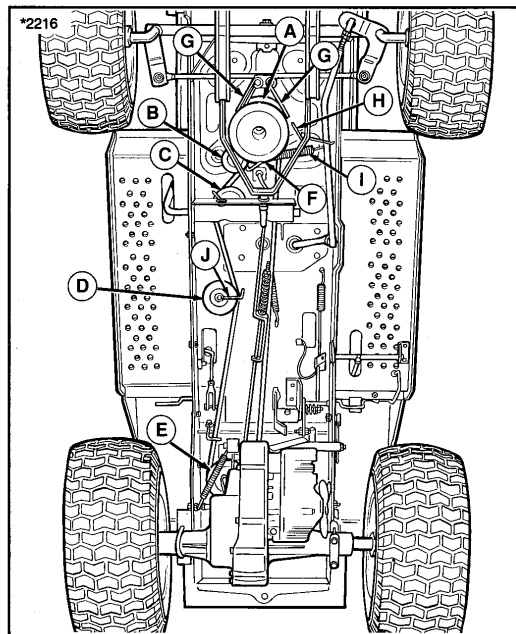
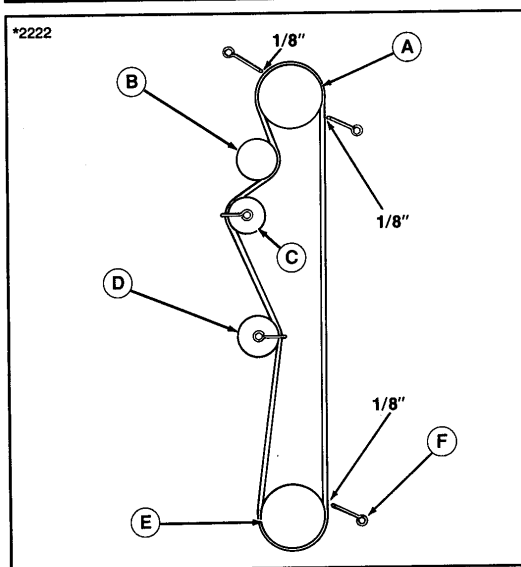
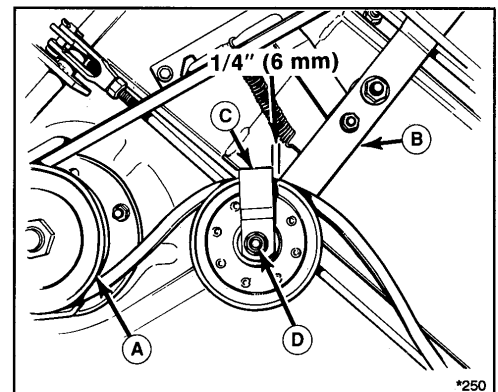

Figure 28. Hydro Tractor (seen from underneath).
Figure 29. Belt Diagram
Figure 33. Mower Belt Replacement
2. With the clutch disengaged, remove the idler pulley spring (I).
3. Loosen the PTO pulley belt stops (G, figure 28).
4. Remove the tractor belt from the engine pulley (A) and allow to rest on top of the PTO pulley.
5. Loosen the belt stop on the idler pulley (B) and remove the belt.
6. Loosen the capscrew securing belt stop (J) and remove belt from idler pulley (D).
7. Loosen the belt stop (F, figure 29) and remove the belt from the transmission pulley (E).
8. Remove the belt from PTO pulley (F) and tractor.
9. Install the new belt by reversing the procedure. Be sure the V side of the belt is against all the pulleys except the flat idler pulleys (B and D, figure 28 and 29). The belt diagram is shown in figure 29.
10. Reinstall belt over idler pulley belt stop (J) and tighten capscrew. Make sure pulley can rotate freely after installation.
12. Perform "Tractor Brake Adjustment" and all belt stop adjustments. Make sure belt stop (F, figure 29) is positioned 1/8" from transmission pulley (in the forward position).
2. Loosen the belt guide (C, figure 33) on the idler pulley.
3. Move idler arm (B) toward rear of mower deck to release blade brakes.
5. Install the new belt on the pulleys as shown in figure 29.
7. Reposition the belt guide on the idler pulley (figure 33). Before tightening the nut (D), position the belt guide so it is 1/4 inch (6 mm) behind the idler arm (B) when viewed from above (figure 33). Hold the belt guide when tightening nut.